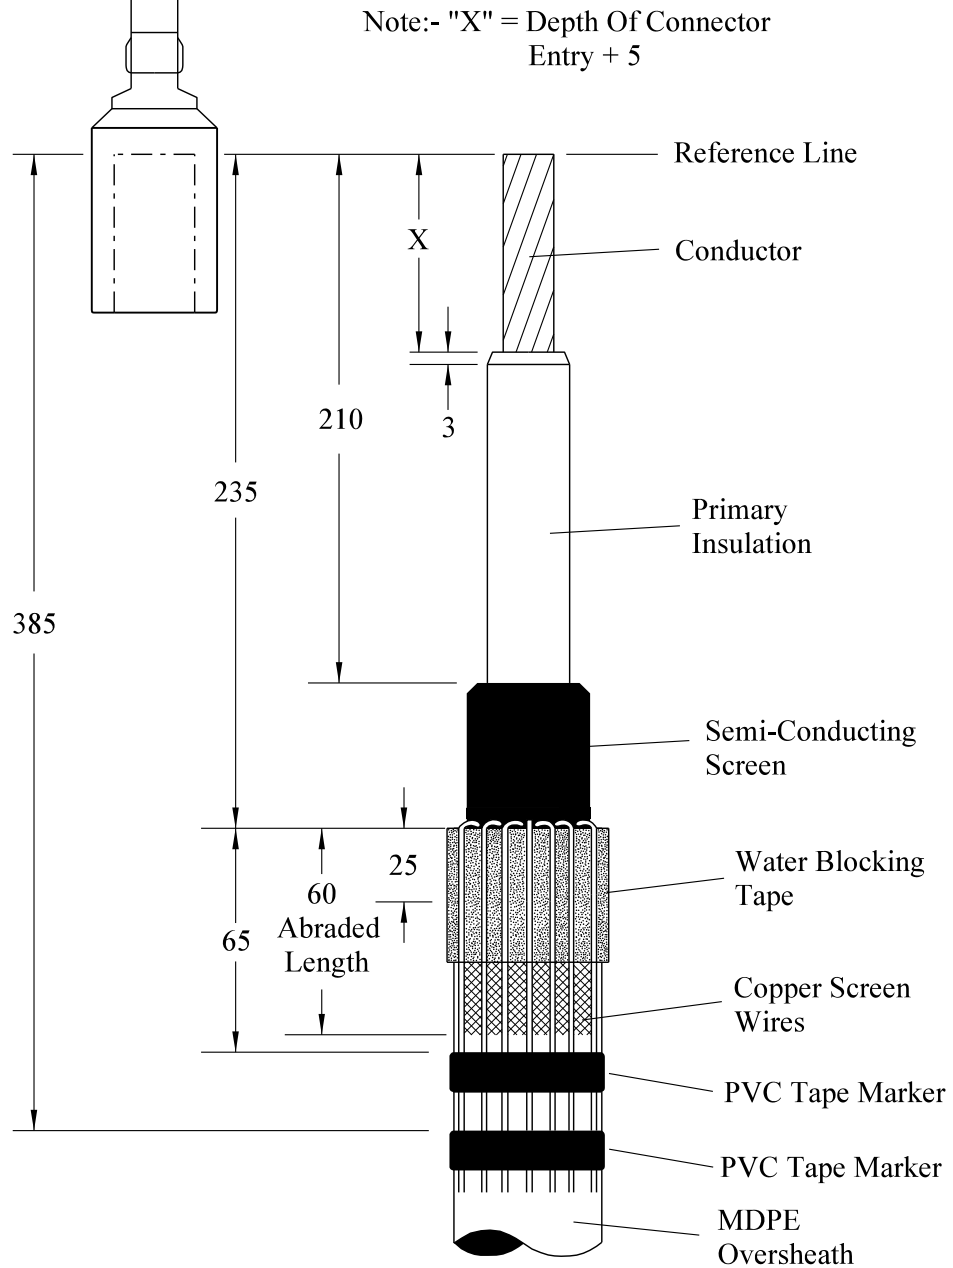

Fig 1
11. Apply a turn of mastic around oversheath — Fig 1.
14. Place a PVC tape marker 385mm from the reference point onto the copper screen wires — Fig 1.	--